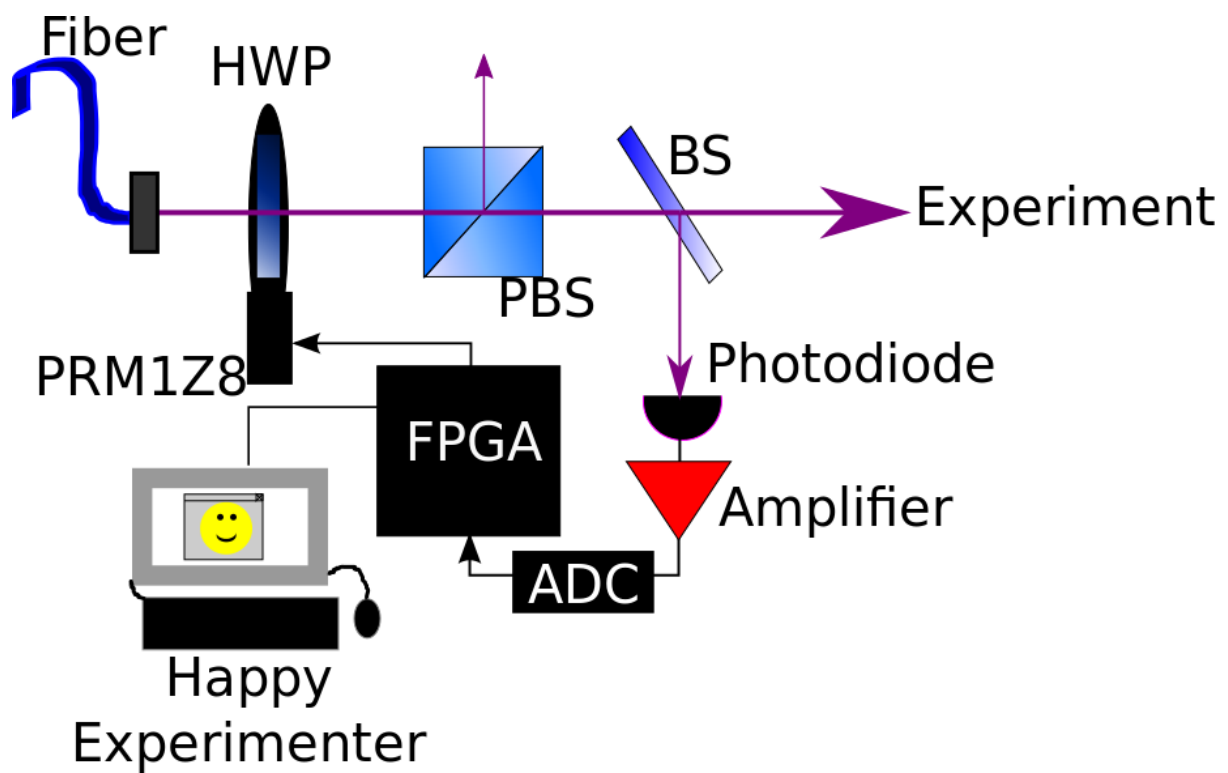
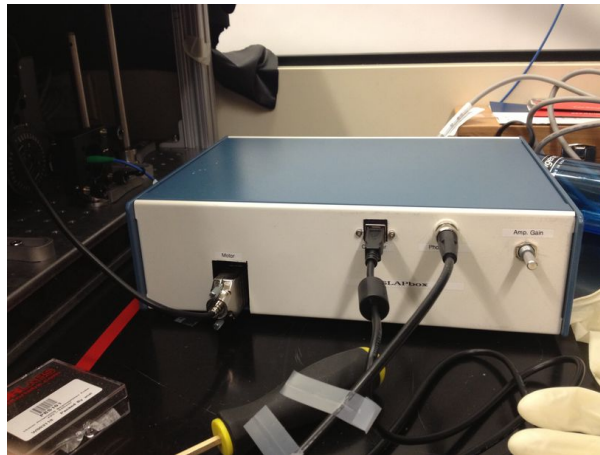

Figure 1.1: Overall scheme for SLAP
Figure 2.1: SLAPbox
The large-scale design of the project is shown in Figure 1.1. First, 422nm light from the fiber passes through a half-waveplate/beamsplitter combination, and the output of the PBS is further split to be (1) sent to the experiment, and (2) sampled by a Thorlabs photodiode.
Set up the optics as in the overall design of Figure 1.1. The FPGA, ADC, Photodiode, and Amplifier are all contained within the SLAPbox shown in Figure 2.1.
The circuitry component corresponds to the amplifier+ADC part of the overall scheme in Figure 1.1.